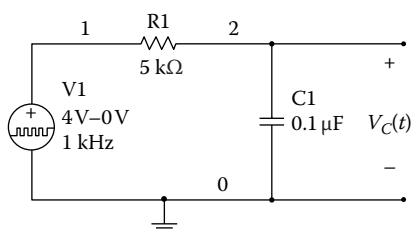

FIGURE P3.1
Problem 3.1 For the circuit shown in Figure P3.1, the input square wave has a frequency of 100 Hz, and the peak-to-peak value of the square wave is 0 to 4 V with offset voltage of 2 V. (1) Use the Analog Discovery board to obtain the output waveform. (2) Measure the time constant of the circuit. (3) Compare the measured time constant with the theoretically calculated value.